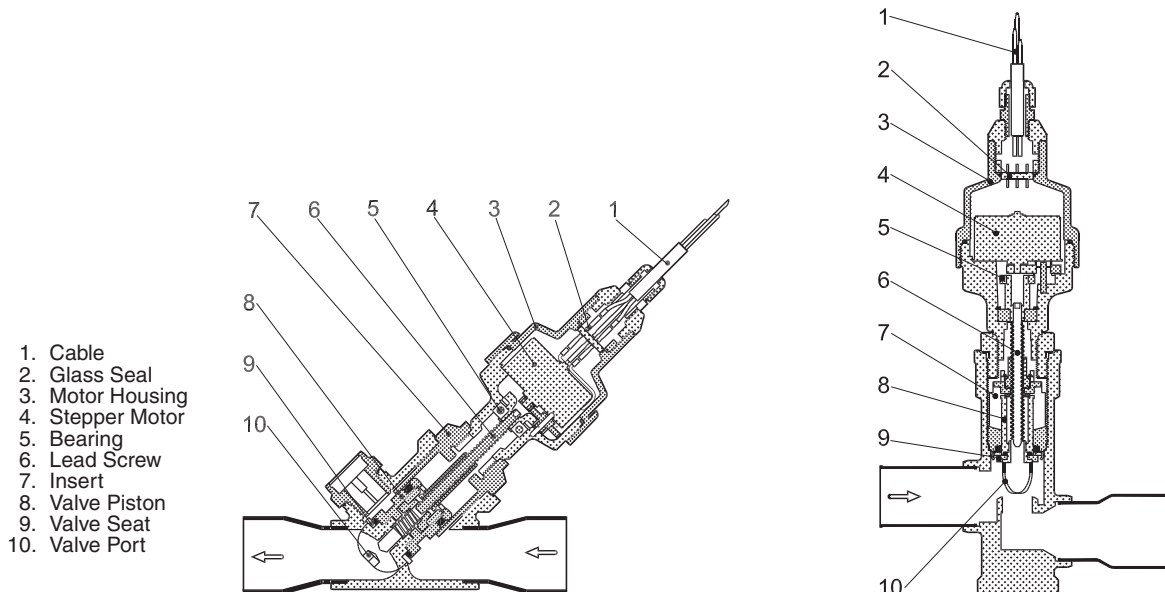

**Fig. 49 — Cutaway Views of the Electronic Expansion Valve**
**Electronic Expansion Valve (EXV)** — See Fig. 49 for a cutaway view of the EXV. High-pressure liquid refrigerant enters the valve through the top. As refrigerant passes through the orifice, pressure drops and refrigerant changes to a 2-phase condition (liquid and vapor). The electronic expansion valve operates through an electronically controlled activation of a stepper motor. The stepper motor stays in position unless power pulses initiate the two discrete sets of motor stator windings for rotation in either direction. The direction depends on the phase relationship of the power pulses. The motor directly operates the spindle, which has rotating movements that are transformed into linear motion by the transmission in the cage assembly. The valve cone is a V-port type which includes a positive shut-off when closed. The large number of steps and long stroke results in very accurate control of the refrigerant flow. The stepper motor has either 3690 (main) or 2785 (economizer) steps.
2. The expansion valve motor is hermetically sealed inside the top portion of the valve. See Fig. 49. Disconnect the EXV plug. Carefully unscrew the motor portion from the body of the valve. The EXV operator will come out with the motor portion of the device. Reconnect the EXV plug.
3. Enter the appropriate EXV test step under the Test mode (Main Menu → Quick Test Table). Locate the desired parameter for the Main EXVs: Circuit A EXV Position (Line 3), Circuit B EXV Position (Line 13) or Economizer EXVs: EXV Eco Position Cir A (Line 9), EXV Eco Position Cir B (Line 19). Change the position to 100%. Observe the operation of the lead screw. See Fig. 49. The motor should be turning, raising the operator closer to the motor. Motor actuator movement should be smooth and uniform from fully closed to fully open position. Select 0% and check open to closed operation. If the valve is properly connected to the processor and receiving correct signals, yet does not operate as described above, the sealed motor portion of the valve should be replaced.